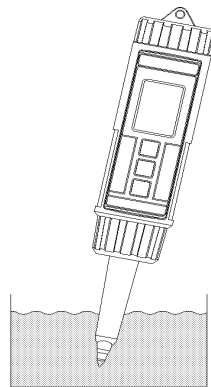

Fig. 3
4. Un-use the test spoon to tested the liquid , that the electrodes are must be completely submersed, as Fig. 3